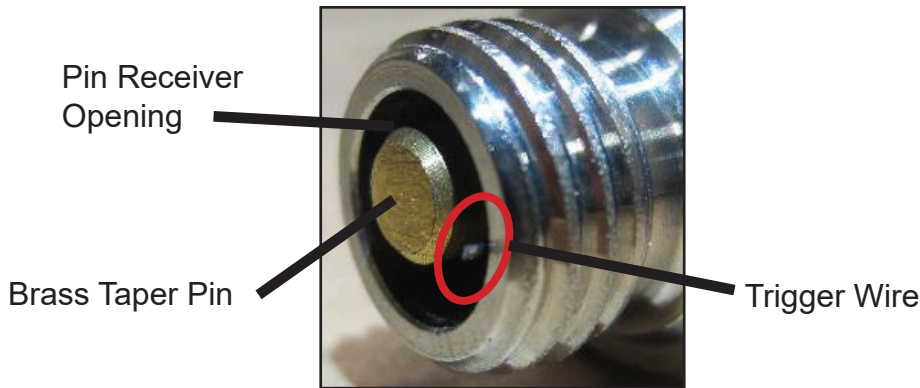

Figure 39: The brass taper pin and trigger wire (circled) must be visible in the receiver opening.
- b. If the pin and the wire are visible or can be felt in place as shown in Figure 39, continue to Step 3. Ensure the brass taper pin is flush against the pin receiver opening, and that the wire is cut flush. If the taper pin is not flush, use a slide wrench or hammer to lightly push the taper pin flush. Cut any exposed wire so that it is flush with the pin receiver.